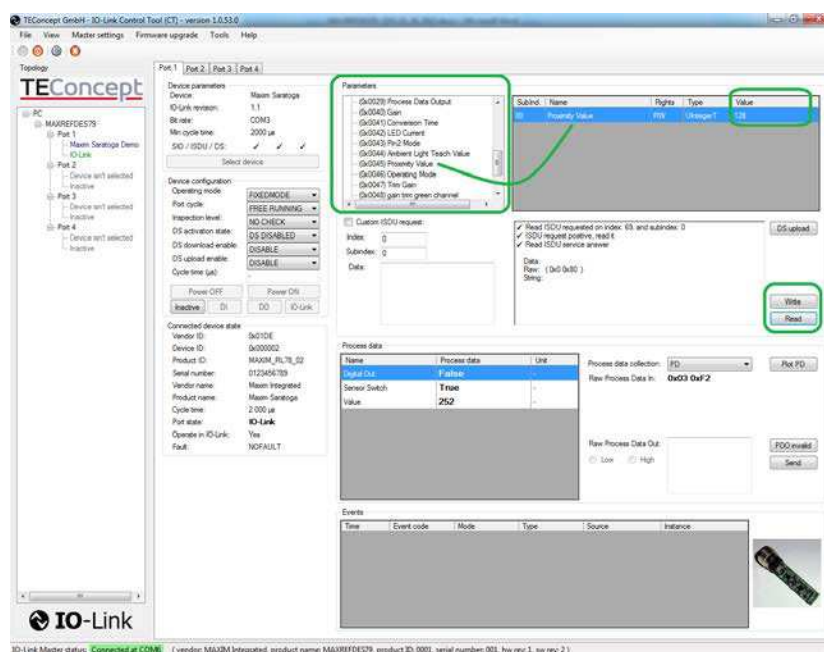

Figure 9. Read and write to parameters by using the Read and Write buttons.
- Read and write to parameters by selecting a parameter in the **Parameters** box and then use the **Read** button to read the parameter. The value gets displayed in the **Value** field circled in **Figure 9**. Also, when writing to a parameter, first edit the value in the **Value** field using the mouse/keyboard and then press the **Write** button. Verify by pressing the **Read** button.